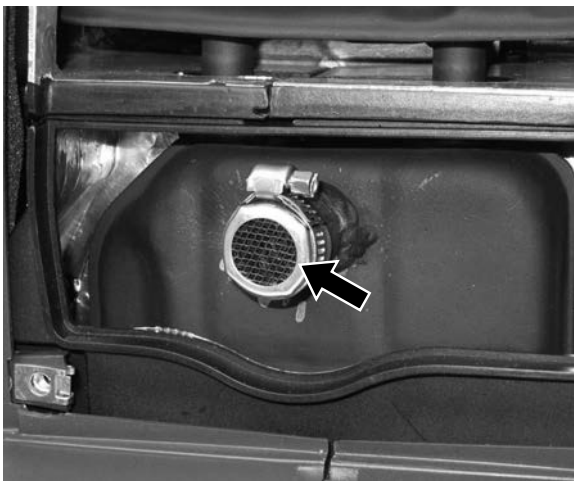

Figure 53 – Spark Arrestor Clamp
4. Loosen the clamp holding the spark arrestor onto the muffler (see *Figure 53*).